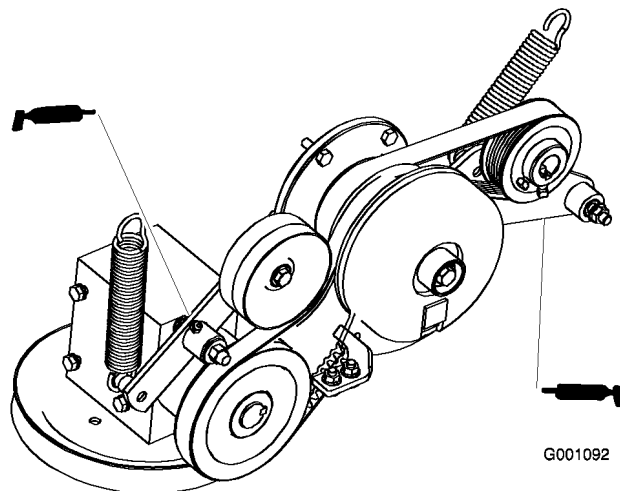

Figure 32
7. Grease the PTO drive belt idler arm (Figure 32).
8. Grease the pump belt idler arm (Figure 32).